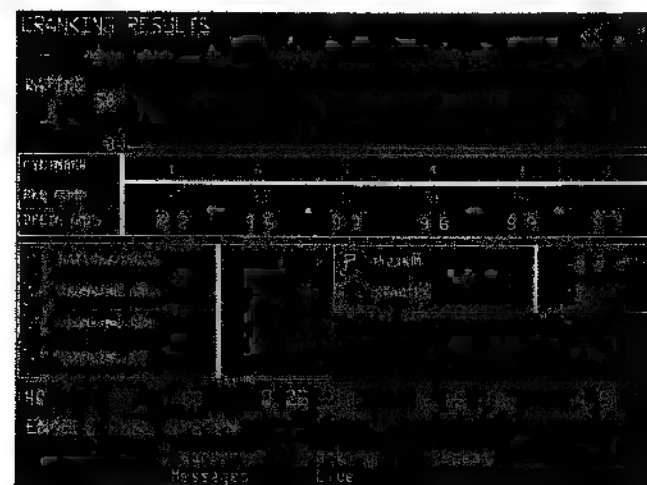

Figure 2-14
1. If the engine is running when you select the test, the analyzer will inhibit the ignition and shut off the engine. Follow the screen prompt (see Figure 2-14) and crank the engine until it starts.